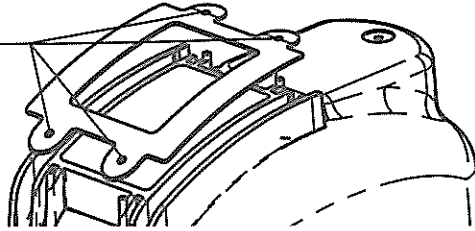

Figure 5
⑦ The filter is attached and the filter gasket is attached. When the filter gasket comes off, make sure all four projections of the gasket are attached in the holes on the upper housing, then set the filter cover. (Figure 5)